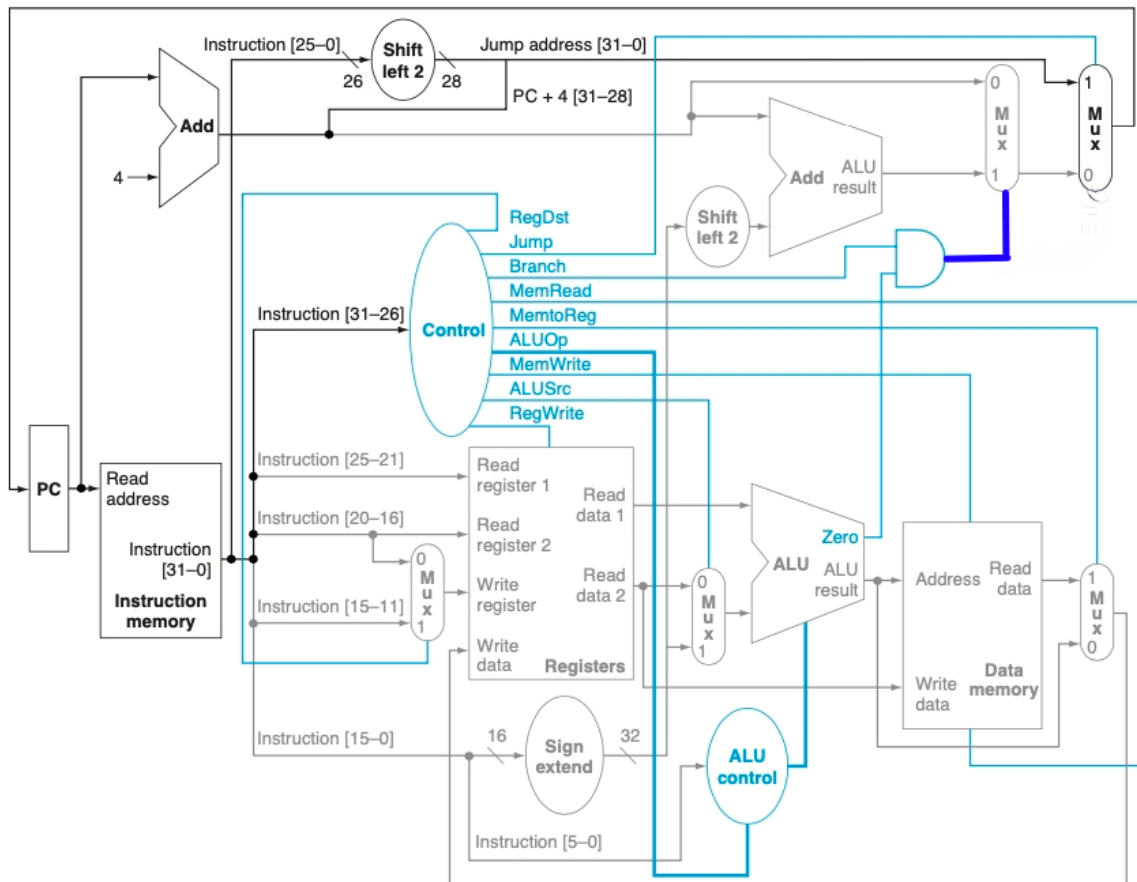
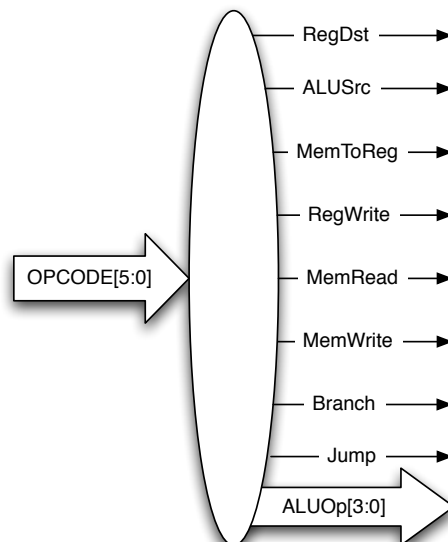

Figure 1: MIPS Block Diagram
Figure 3: Control Unit Decoder
The single-cycle MIPS processor is shown in Figure 1. This version of MIPS is labeled as such because each instruction takes a single clock cycle to execute and instruction execution is **not** overlapped. In other words, the currently executing instruction must fully complete before the next instruction can start. As we will see in this lab, this sort of implementation is extremely inefficient. Examination of the diagram reveals where the data-memory module and register-file fit in. The major components which still need to be designed include the Arithmetic Logic Unit (ALU) and the control unit. The instruction memory will be provided for you in the form of a Read Only Memory (ROM) module with preloaded test programs. A portion of the questions at the end of lab will address these test applications.
2. **Design the ALU control logic.** The process of decoding an instruction into a control code that the ALU can understand (Table 1) is split up into two blocks. The first block is contained within the control unit and will be addressed shortly. The second block is the ALU control block shown in Figure 1, which takes in an ALU op control code (*Note the control signal is thicker indicating a bus*) from the control unit and the function field from the current instruction. The ALU control logic should asynchronously function as follows:
3. **Design the control unit logic.** The control unit orchestrates the flow of data through the microprocessor by decoding the 6-bit op code within the current instruction. Simply put, each of the control signals shown in Figure 1 will be set to LOW or HIGH based solely on the op code field (see Figure 3). The control unit is nothing more than a large decoder, and this level of simplicity is maintained by the fact that we already designed the ALU control logic.
- (a) Use Figure 1 to create a table which lists the values (i.e. 0 or 1 for individual signals and use the defines for the op code field) of all the control signals for the following instructions: R-type, load/store word, immediate (only those currently supported by the ALU), branch (just beq for now), and jump.